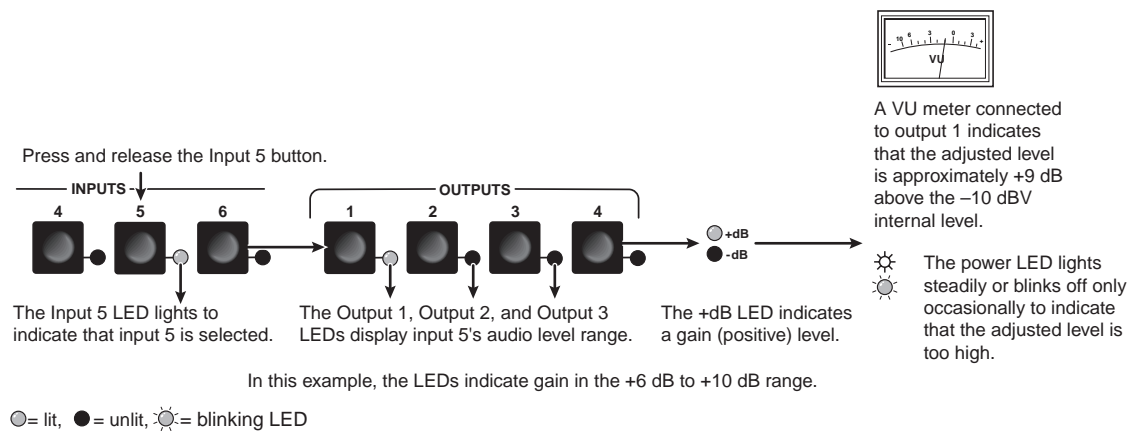

Figure 3-33 — Select an input
2. Press and release the Input 5 button (figure 3-33).